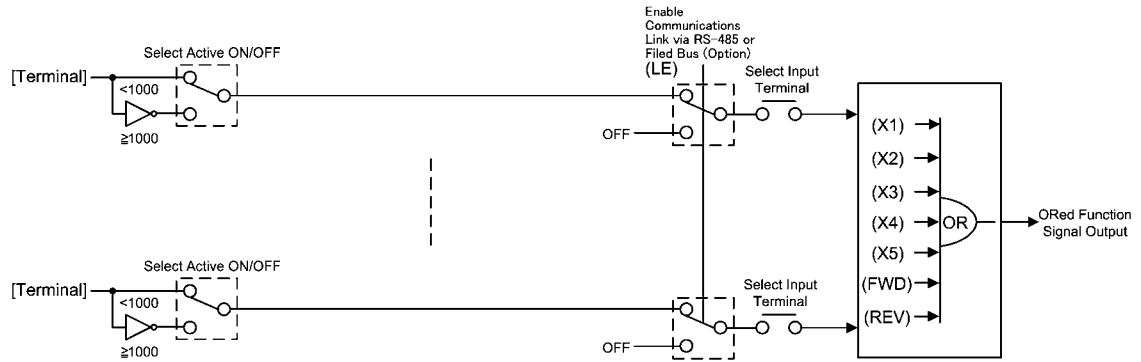

Figure 4.3 (d) Block Diagram of Digital Control Input Block (Forced to turn off the signals on terminals during (LE) being turned on)
Figure 4.3 (d) is a block diagram of the Digital Control Input Block (Forced to turn off the signals on terminals during the enable communications link command (LE) being turned on) that forces to turn off any signals on the digital input terminals during the communications link is activated ((LE) being turned on). Upon the "enable communications link" being disabled, the signals on the digital input terminals directly become the signal output for control.